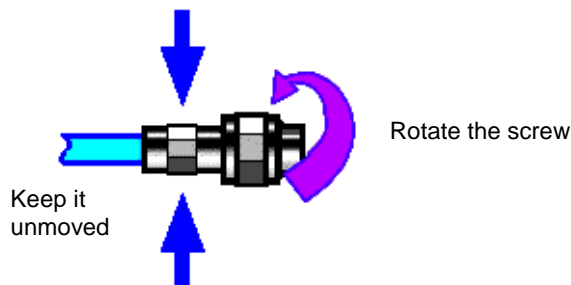

Fig. 2.5 Diagram - Rotating Connector
Step 2. As shown in Figure 2.5, move the two connectors straight to each other so that they can be connected smoothly, rotate the threaded sleeves of the connectors (Note: Don't rotate the connector itself) until they are tightened. There should be no relative rotation between the connectors during the connection;